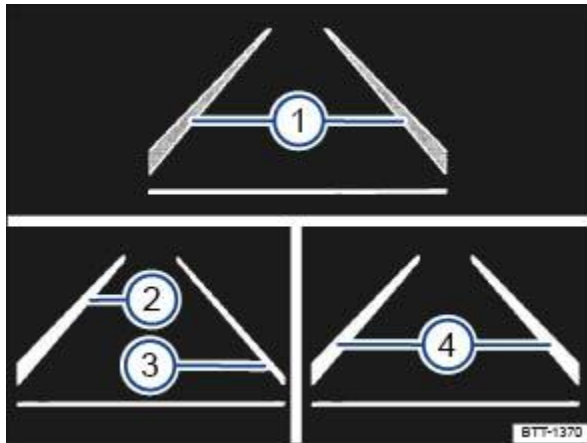

Fig. 123 On the instrument cluster display: lane keeping system displays.
Display areas in the instrument cluster display ⇒ Fig. 123 :
The system has detected a lane marking on both the right and left sides of the vehicle ⇒ Fig. 123 ^① .
The system has detected a lane marking on both the right and left sides of the vehicle ⇒ Fig. 123 .